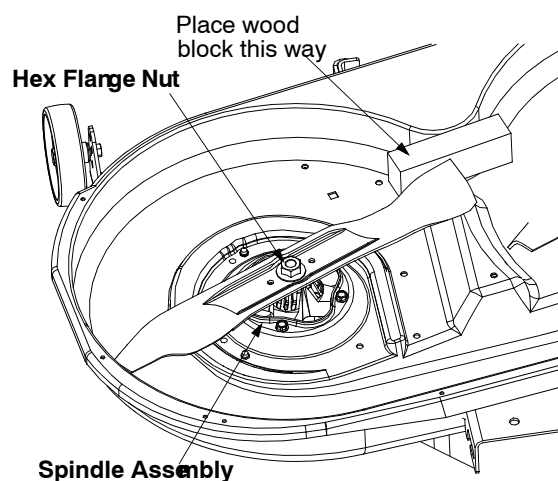

Figure 1
- ☐ Place a block of wood between the center deck housing baffle and the cutting blade to act as a stabilizer. See Figure 1.